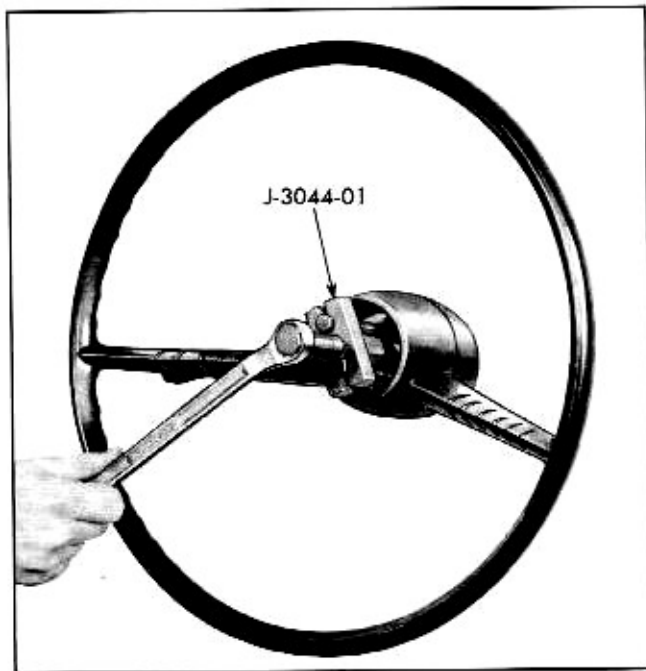

Fig. 9-5 Pulling Steering Wheel
7. Remove steering wheel using Puller J-3044-01 (Fig. 9-5).